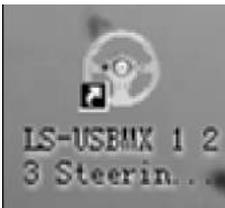

Fig. 5
- Insert Software CD disk into the disk drive of your PC and launch «setup.exe» to install drivers on your PC. If there is no CD drive in the PC, download the software from site <https://www.sven.fi/ru/>. After installation is complete, a shortcut LS-USBMX 1 2 3 Stering Wheel W/Vibration (Fig. 5), run it (you may need administrator rights).